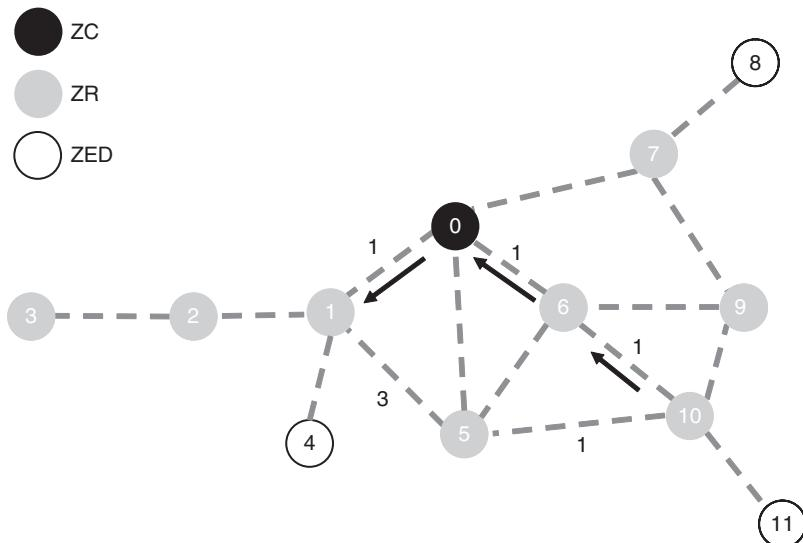

Figure 7.16: ZigBee Chooses the Lowest Path Cost for Route
Now, let's assume that the link between nodes 1 and 5 is not very good. Say a path cost of three, as shown in Figure 7.16. ZigBee will discover a route with more hops (say from $1 <--> 0 <--> 6 <--> 10$), rather than one with fewer hops, and a link that will require retries. You can see this makes sense in terms of time. If ZigBee must retry, it is much more time expensive than if ZigBee merely needs to add an extra hop or two.
What if the route that worked before doesn't work now? ZigBee sends a route error back to the originating node. For example, in Figure 7.16, perhaps the original route was $1 <--> 0 <--> 6 <--> 10$. But for some reason the link between nodes 6 and 10 breaks. Since node 6 can no longer deliver the packet, it will send a route error back to the originating node (1) who will then issue a new route request, automatically finding a new available path. This feature of mesh networking is often called self-healing.